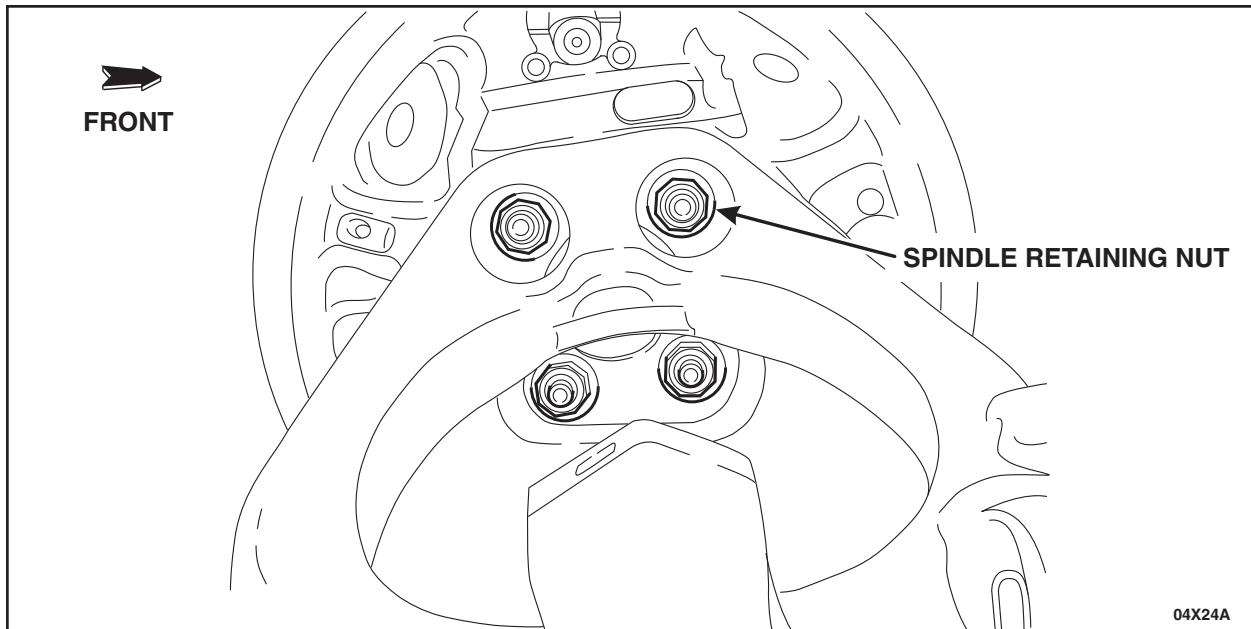

FIGURE 11
7. Remove the four spindle retaining nuts. See Figure 11.
15. Install the four spindle retaining nuts. See Figure 11.